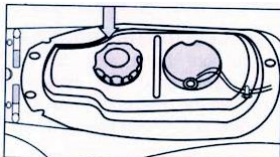

Fig. 28
6.1 The fuel tank is located under the seat (Fig. 28) and is accessible only when the seat is unlocked and lifted. For filling in petrol unscrew the cap and close it after refuelling.